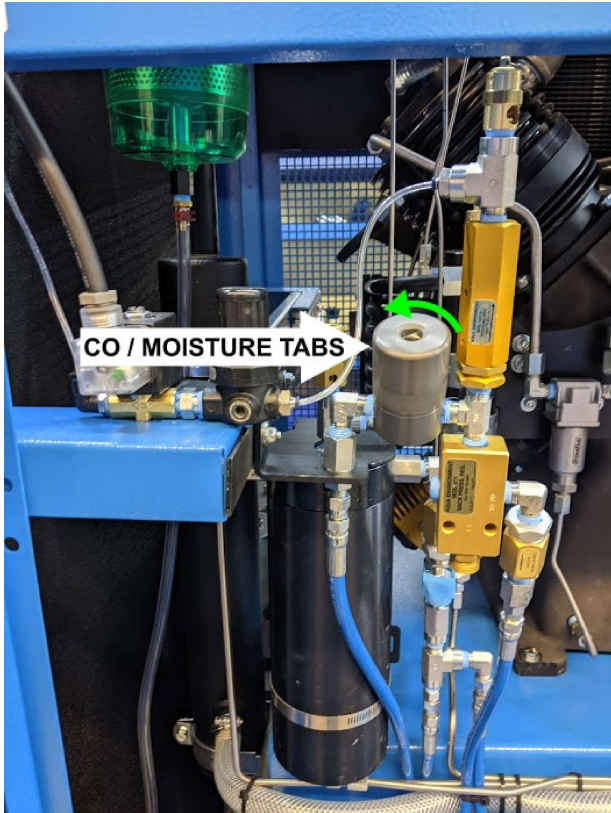

Figure 6.10: CO/Moisture Tab Sight Glass.
1. Unscrew the top portion of the sight glass enclosure to access the tabs. (Figure 6.10)